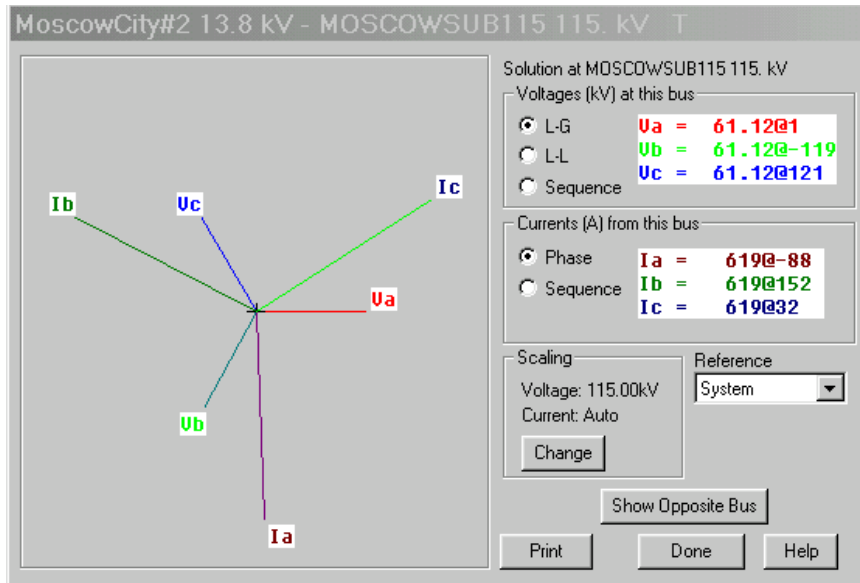

Figure 4. 115 kV **phase** currents and voltages for the 13.8 kV bus **three-phase** fault at Moscow.
- $V_n$  ( $V_a$ ,  $V_b$  or  $V_c$ ) is the line to neutral voltage at the fault. You only have **positive sequence** voltage and current since the system is balanced. That is;  $I_a = I^+$ . The current angles are referenced to the system, which in this case is the 115 kV (see Figure 4).